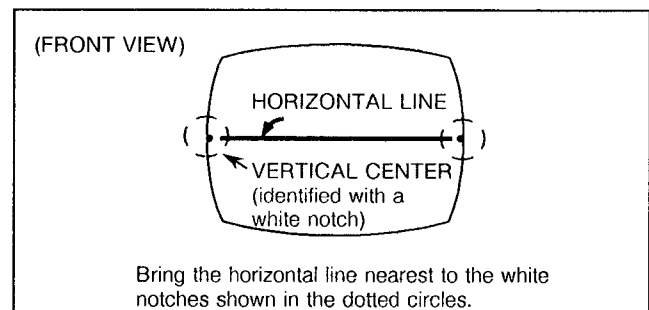

Fig.B-4
6. Check the vertical center position by displaying a horizontal line. (Select the CUT-OFF SERVICE SWITCH from N to S and a HORIZONTAL LINE will appear.) Unless correct, bring it to the nearest center by rotating the two tabs, kept at an angle, together in either direction. (Fig. B-4)